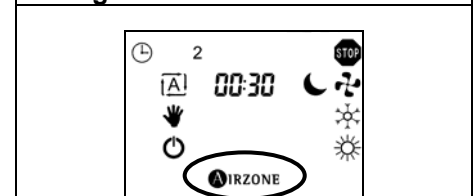

Fig. 24 - Press on the Airzone icon
- 2) Press on the AIRZONE icon once and then on the clock icon  (Fig. 24).